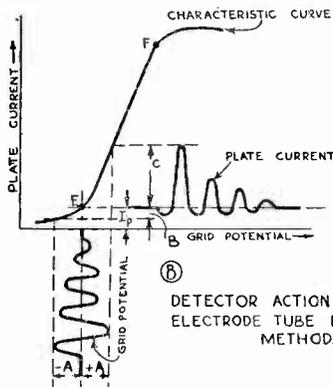

Fig. 43B: Detector action with the tube operating on the bend of the characteristic curve.
**69. GRID BIAS METHOD:** The first of these is variously known as the "power detection", "plate rectification", "grid bias", or "C" battery method and the manner in which it is accomplished can be most easily explained by reference to the grid voltage-plate current characteristic curve of the vacuum tube, Fig. 43B. The plate
Fig. 43A: Three-electrode tube in detector circuit with potentiometer control of grid bias. to accurately adjust the grid potential to such a value that when no signal is being received, the operating point of the tube is some point E on the lower bend of the tube characteristic curve of Fig. 43B. Now if a signal is received by the antenna, a high-frequency alternating e. m. f. will be set up across the coil and the plates of the condenser C. This is impressed between the grid and filament of the tube, producing at every cycle approximately equal and opposite plus and minus variations (+ and -) of the steady grid potential E. This is represented by the lower curve, drawn as a simple wave for sake of simplicity. From the way the characteristic curve bends, it is easy to see that if the grid potential increases "A" volts + (right) the plate current increases a larger amount (C) than it decreases (B) when the grid potential decreases "A" volts - (left). The "B" variations have been practically eliminated and due to this cutting off of the lower